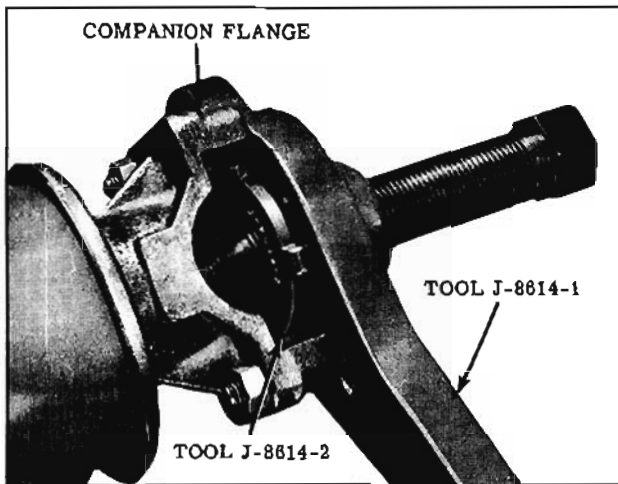

Fig. 10-110 Removing Companion Flange
5. Remove washer and then remove companion flange using Puller J-8614-02. (Fig. 10-110)
4. Remove companion flange using Puller J-8614-02. (Fig. 10-110)
3. Pull companion flange from pinion using Puller J-8614-02 in Holder J-8614-01. To install puller, back out puller screw, insert puller through holder and rotate 1/8 turn. (Fig. 10-110)